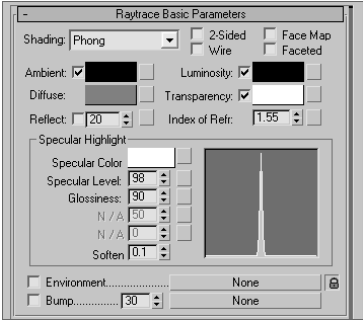

Figure 11.32
10. Apply the material to the wine glass. The glass will turn transparent in the viewport. Quick Render. Figure 11.32 shows the result.